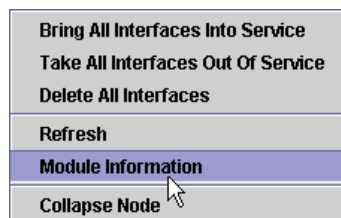

Figure 5-4. Module Right-Click Menu
- c Right-click the mouse on the bar code image on the Front Panel. A menu appears (see Figure 5-4). Select Module Information.
- d Right-click the mouse on the name of the module in the Device Tree. A menu appears (see Figure 5-4). Select Module Information.